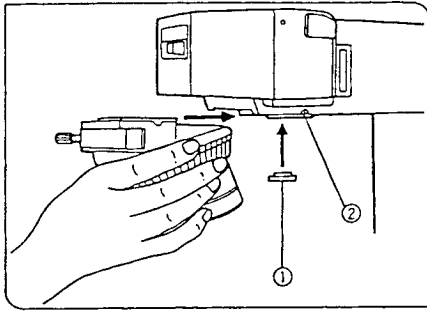

Fig. 15
**10** Mounting the Revolving Nosepiece (Fig. 15)